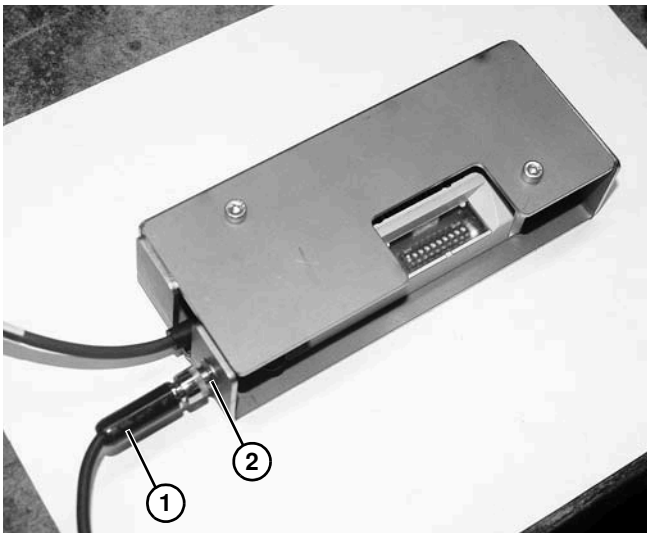

Figure 67
1. Disconnect quick disconnect end (**Figure 67, item 1**) of power supply from power jack (**Figure 67, item 2**).